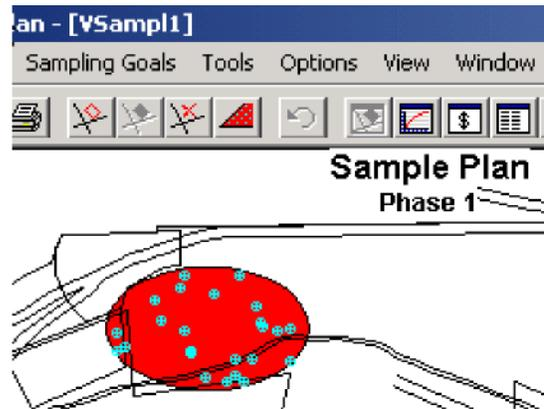
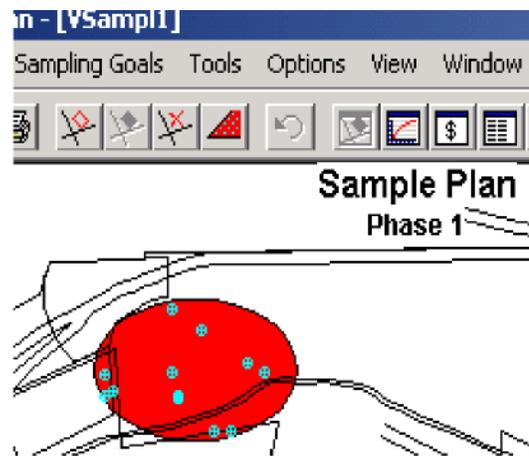

Figure 2.19. Example Sample Area with Sampling Locations
Figure 2.20. Example Study Area after Sampling
4. Choose the Main Menu; select **Sampling Goals > Compare Average to Fixed Threshold > Data not required to be normally distributed > Simple Random Sampling (Wilcoxon signed ranks test).** Click the Apply button to place samples in the Sample Area. You should now have a Sample Area with 24 sampling locations similar to that shown in Figure 2.19.
7. Finally, to remove the sampling locations listed in *Remove.txt* from the Sample Area, choose Main Menu option **Map > Sample Points > Remove**. Select the file *Remove.txt* and click the **Open** button. You will see in Figure 2.20 there now are only 16 sample points instead of the original 24 shown in Figure 2.19.